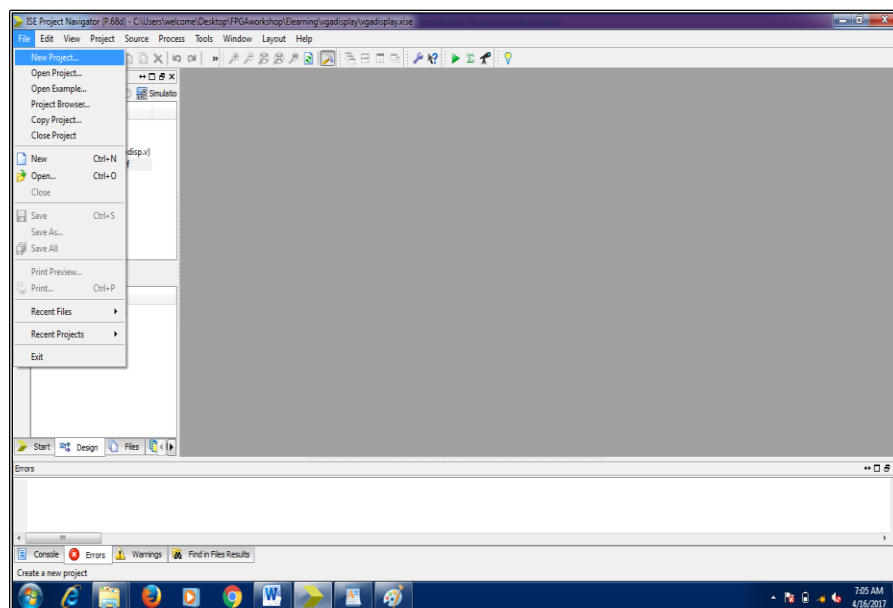

Fig C.2
2. The **ISE Project navigator** interface will be opened (Fig C.2). From the menu bar, select **File => New Project**.